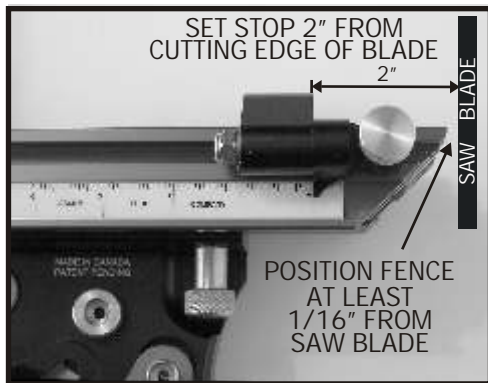

FIG. 6
7. Loosen the fence scale locking dial (Fig. 7) and adjust the sliding scale so the left edge of the indicator lines up with the 2 inch mark on the scale (Fig. 6). Then re-tighten the fence scale locking dial.